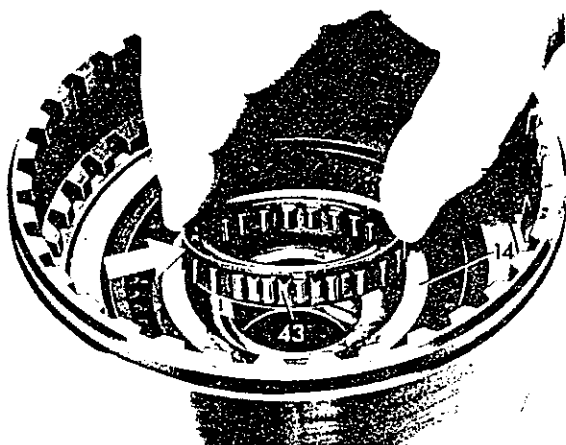

Fig. 15
- 25** Insert roller clutch (43) into outer race (14). The edge with outward bead (refer to arrow) should face upwards (Fig. 15).